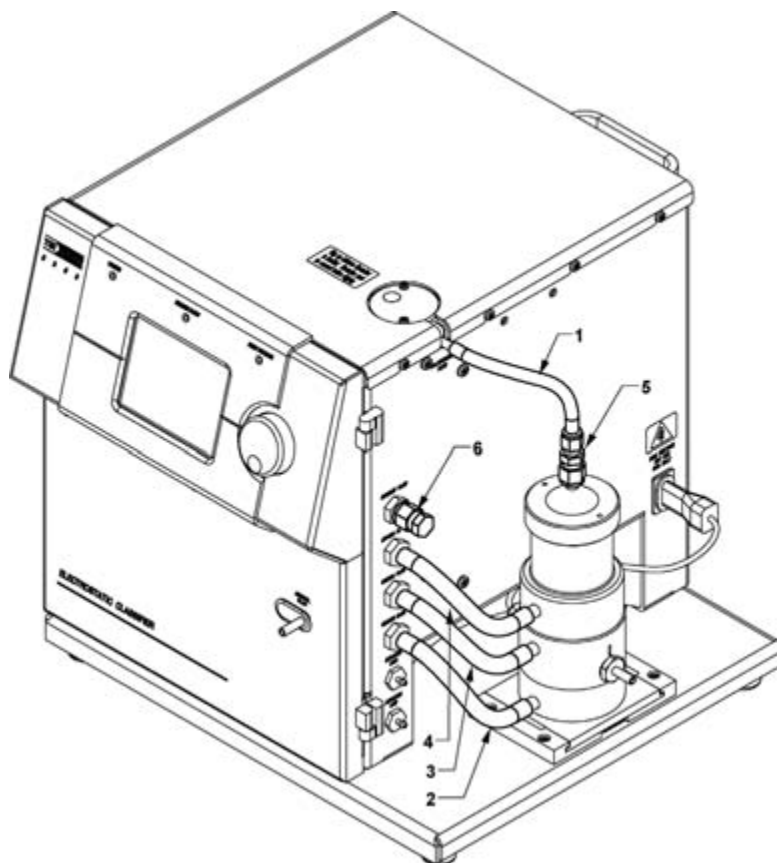

Figure 2-12
For Single Blower mode, refer to Figure 2-12 and Table 2-4 as you follow the steps listed below to install the DMA tubing:
6. When using the bypass flow, connect tube #4 from the Classifier port marked BYPASS FLOW to the DMA port marked BYPASS FLOW. Leave the EXHAUST FLOW port on the Classifier open without the cap (#6 in Figure 2-12).